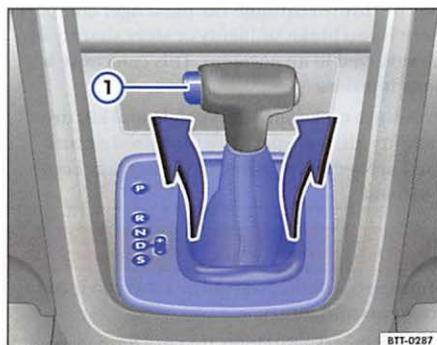

Fig. 174 Removing the selector gate cover.
- Pull upward on the cover around the selector lever sleeve ⇒ fig. 174.
- Press the release button ⇒ fig. 174 ① in the selector lever handle and shift the selector lever to Neutral (N).